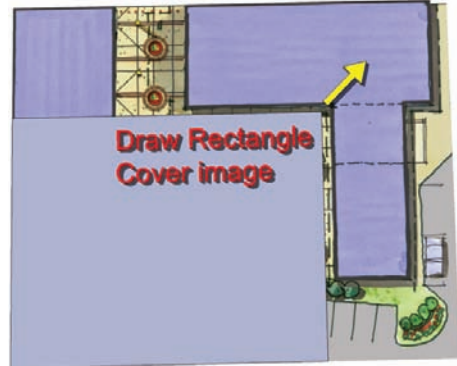

Fig. 7-3: Draft a rectangle face over the plan image.
- b. Snap the first point of the face at 0 insertion; make sure to cover and overlap the entire image surface (Fig. 7-3).